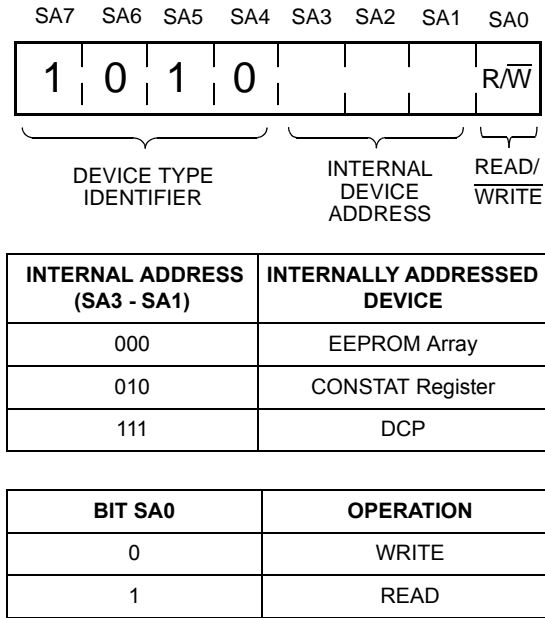

FIGURE 4. SLAVE ADDRESS FORMAT
Following a START condition, the master must output a Slave Address Byte (Refer to Figure 4.). This byte consists of three parts:
- The Least Significant Bit of the Slave Address (SA0) Byte is the R/W bit. This bit defines the operation to be performed on the device being addressed (as defined in the bits SA3 - SA1). When the R/W bit is “1”, then a READ operation is selected. A “0” selects a WRITE operation (Refer to Figure 4.)